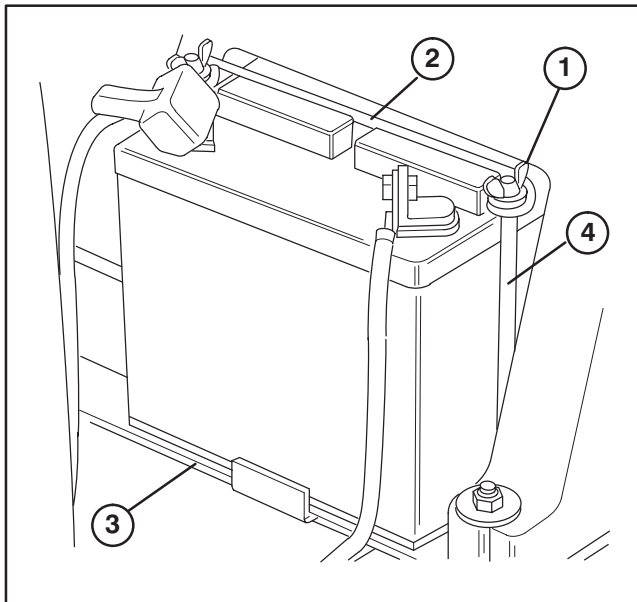

Figure 4
2. Remove wing nuts and washers securing battery clamp to battery bolts and remove battery from machine. Remove filler caps from battery and slowly fill each cell until electrolyte is just above the plates (Fig. 4).
6. Mount battery on battery pad with terminal posts toward rear of machine (Fig. 4).
7. Secure battery with to battery bolts with clamp, washers and wing nuts (Fig. 4).
8. Install the positive cable (rubber boot over end) to the positive (+) terminal and the negative cable (black) to the negative (–) terminal of the battery and secure with carriage bolts, lockwashers and nuts. Slide the rubber boot over the positive terminal to prevent possible short–out from occurring (Fig.4).